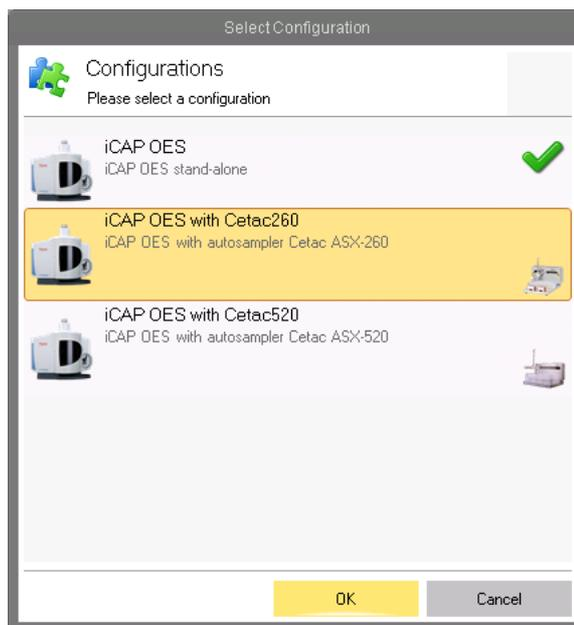

Figure 4-22. Select Configuration window
2. Select the Configuration you wish to load, see Figure 4-22.